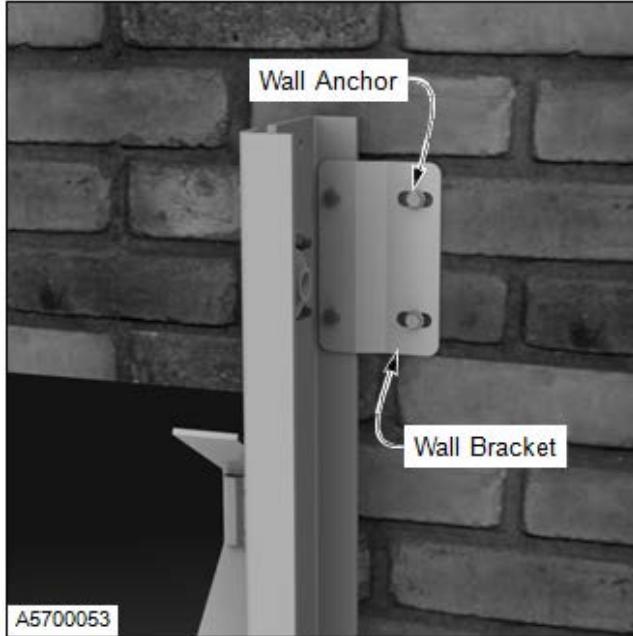

Figure 11
4. Anchor the wall bracket. DO NOT tighten the anchors securely at this time — they will be tightened, after the head assembly is installed. (See Figure 11)